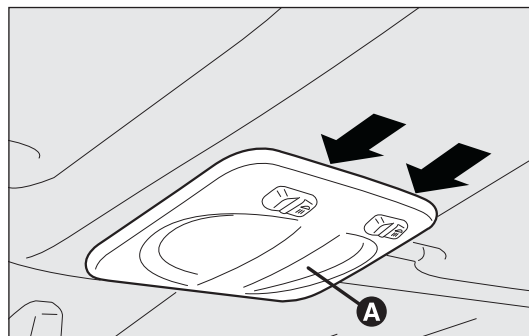
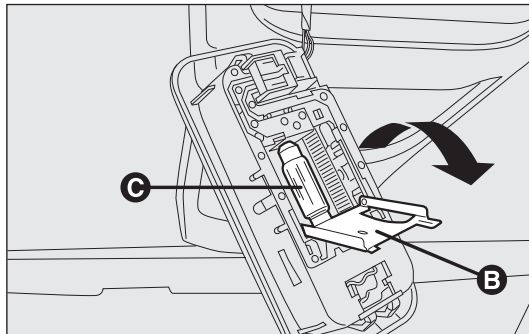

fig. 180
fig. 181
- manipulate the points shown by the arrows and remove light A-fig. 180;
- open the protective flap B-fig. 181;
- replace bulbs C-fig. 181 by releasing them from the side contacts and making sure that new bulbs are correctly clamped between these contacts;
- close the flap B-fig. 181 and fasten the courtesy light A-fig. 180 in its housing, making sure it is locked in correctly.